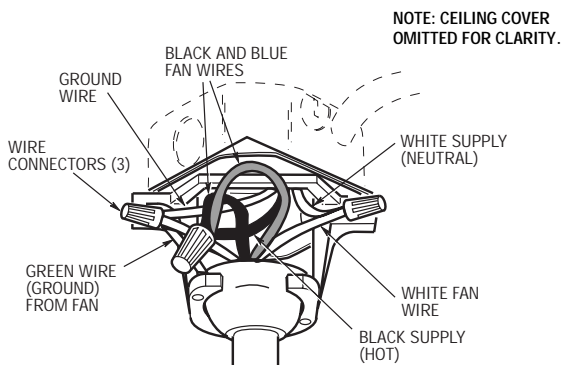

Figure 10
- 2. Connect the fan motor white wire to the supply white (neutral) wire using a wire connector (supplied) (Figure 10). Connect the fan motor black wire and blue wire to the supply black (hot) wire using a wire connector (supplied) (Figure 10). Your fan is now wired to be turned on and off from the fan switch. After connections have been made, turn leads upward and carefully push leads into the outlet box, with the white and green leads on one side of the outlet box and the black and blue leads on the other side of the outlet box.